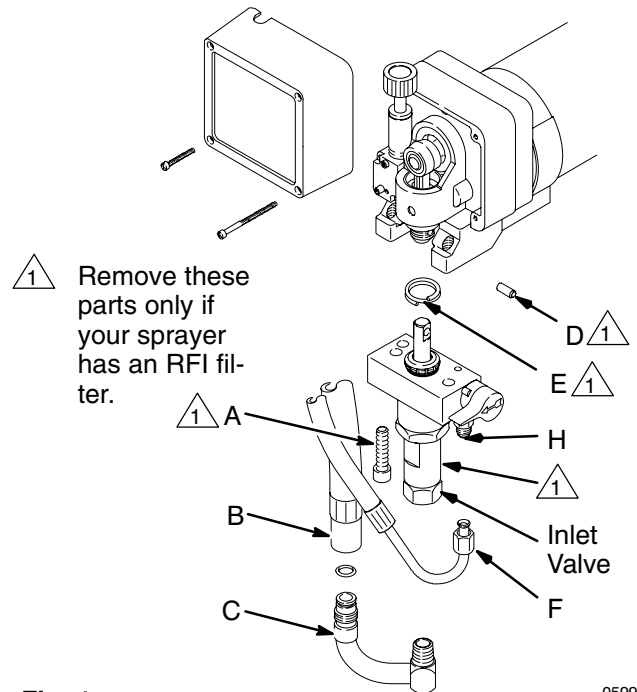
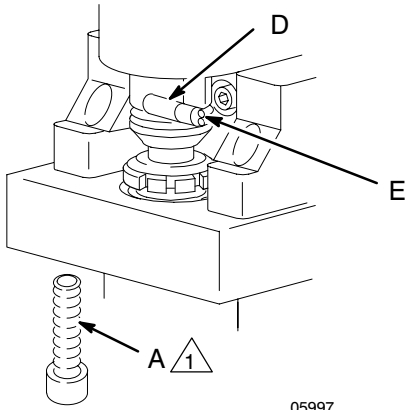

Fig. 1
Fig. 2
2. Disconnect the spray hose and drain hose (F). To remove the suction hose, pull upward on the hose (B) while unscrewing it from the inlet tube (C). The hose coupling threads will engage and the hose will separate from the tube. See Fig. 1.
3. Models with RFI line filter only: Manually rotate the motor fan blades to fully lower the pump rod. Push the retaining spring (E) up and remove the pin (D). Remove the capscrews (A) and the pump. See Fig. 1.
4. Unscrew the inlet tube (C) from the pump without turning the pump inlet valve.
5. Models with RFI line filter only: Reattach the pump to the sprayer, making sure the retaining spring (E) is securely around the pin (D). Tighten the screws (A) to 45–50 ft-lb (61–68 N.m). See Fig. 2.